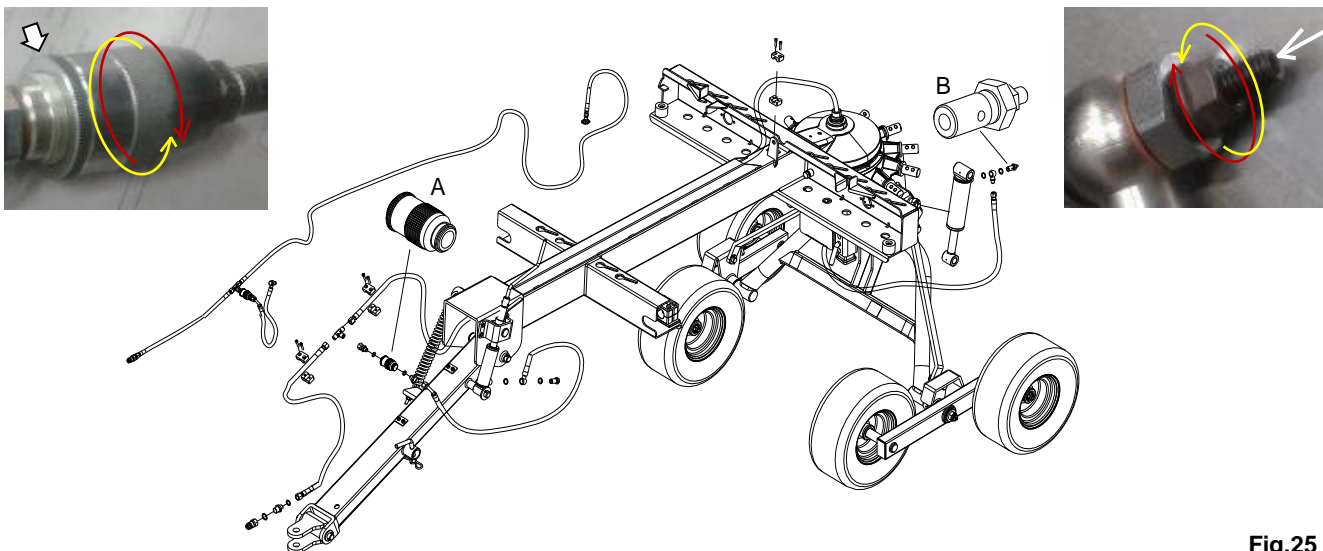

Fig.25
**A. Flow adjusting valve of frame (fig.25):** if the lifting of the frame did not result parallel to the ground, adjust the valve by manually rotating the knurled part:
**B. Flow adjusting valve of rotor (fig.25):** if the lifting of the rotor results too much fast or too much slow. Adjust the valve by using an Allen key: